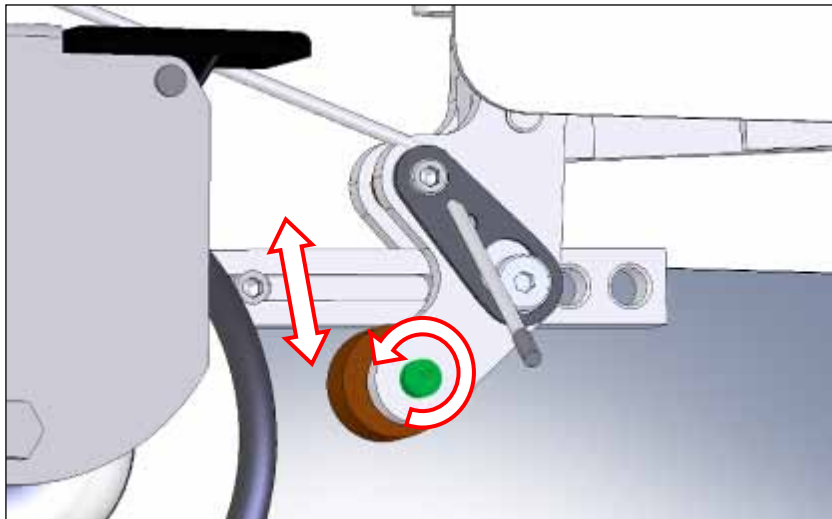

Figure 35
2. Loosening the socket head cap screw with a 3/16" Allen key and adjust the position of the round eccentrically mounted hook stop so the docking hook is at least ¼" (6.35mm) above the scanner's bronze dock hook and is not contacting the inside top surface of the dock. (Figure 35).